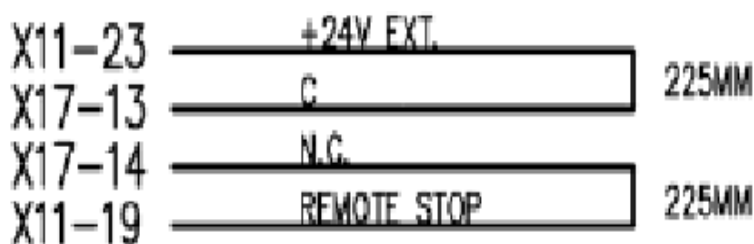
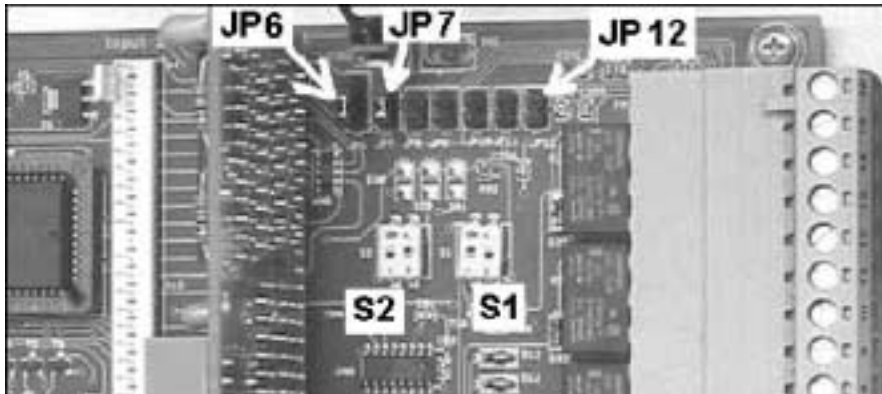

Fig. 10 Connection to LEAK/LEVEL
Fig. 11 Connections to REMOTE STOP and EXTERN source
- connecting the LEAK/LEVEL alarm output to the REMOTE STOP input. (Use the 24 V EXTERN source, terminal-strip X17 terminals 13 and 14, and terminal-strip X11 terminal 19. And set S2 and S1 in the correct position, see *Fig. 10* and *Fig. 11*.